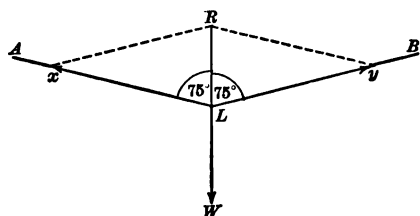

FIG. 117.—Three forces acting on street lamp.
**111. Resolution of forces.** The principle of the composition of forces can be worked backward. If one force is given, we can find two others in given directions which will balance it. For example, take the case of the lamp suspended above the middle of the street. If we know the weight of the lamp and the angle of sag of the ropes, as shown in figure 117, we can calculate the tension in the ropes.
to  $75^\circ$ . In the diagram (Fig. 117) draw the arrow  $LW$  down from  $L$  to represent 50 pounds on some convenient scale. As the two ropes have to hold up the lamp, the resultant of the forces representing